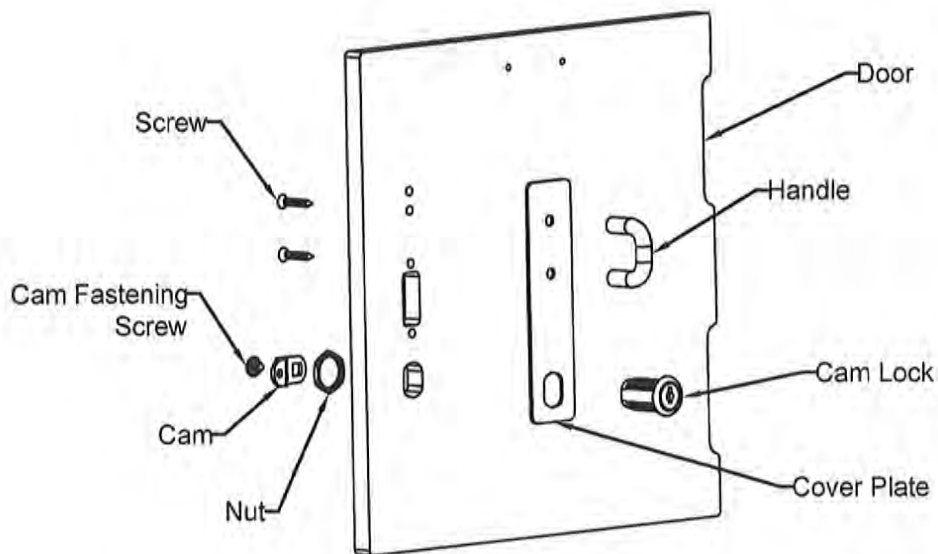

Figure 11.1 Keyed Cam Lock Installation
- 11.3 Attach handle with screws through the back side of the door and into the handle. See Figure 11.1.